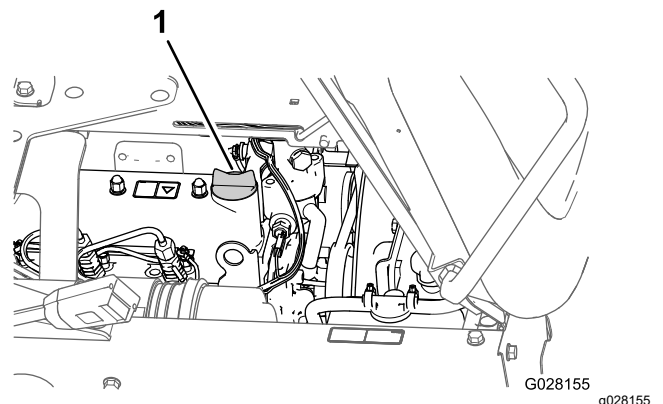

Figure 76
5. Remove the oil-filler cap from the filler neck of the valve cover of the engine and slowly pour approximately 80% of the specified amount of oil into the filler neck (Figure 76).
- Install the oil-filler cap into the filler neck (Figure 76).